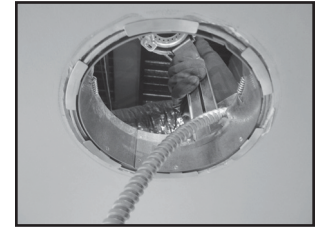

Figure 41.
- Press LED module and reflector assembly into retrofit ring assembly until flush with ceiling (Figure 41).